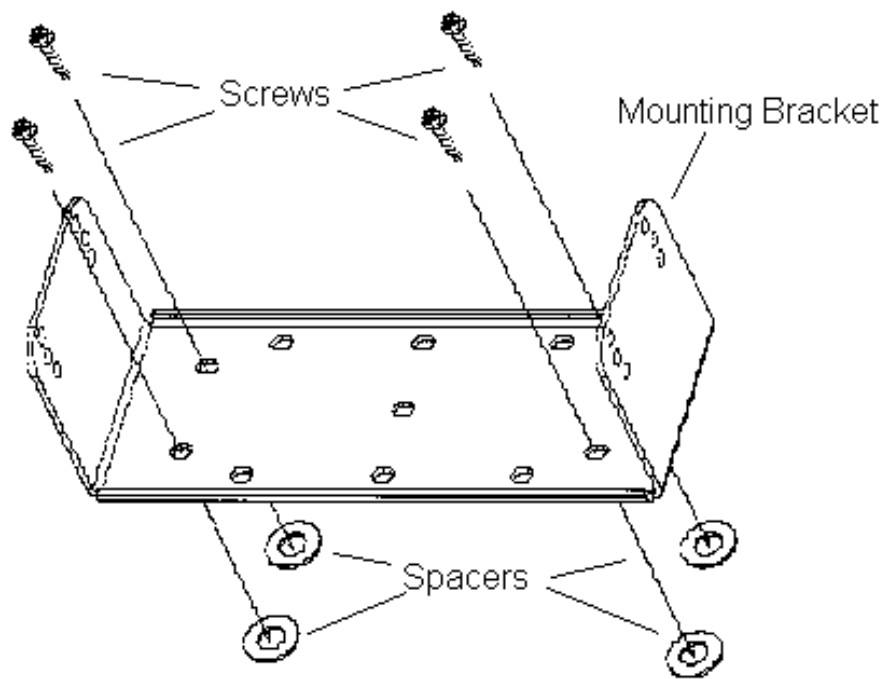

Figure 8 – Mounting Bracket Installation
2. Mount the bracket using the four 3/4" Phillips sheet metal screws and spacers provided in the mounting bracket hardware kit. (Refer to Figure 8.)